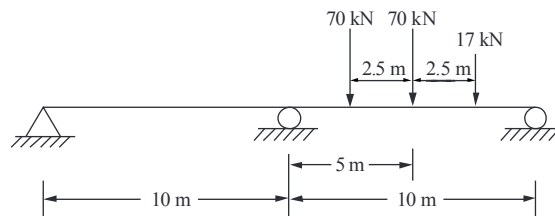

Figure P4-35
- 4.35 For the beam shown in Figure P4-35, determine a suitable sized W section from Appendix F or from another suitable source such that the bending stress does not exceed 150 MPa and the maximum deflection does not exceed  $\frac{L}{360}$  of any span.